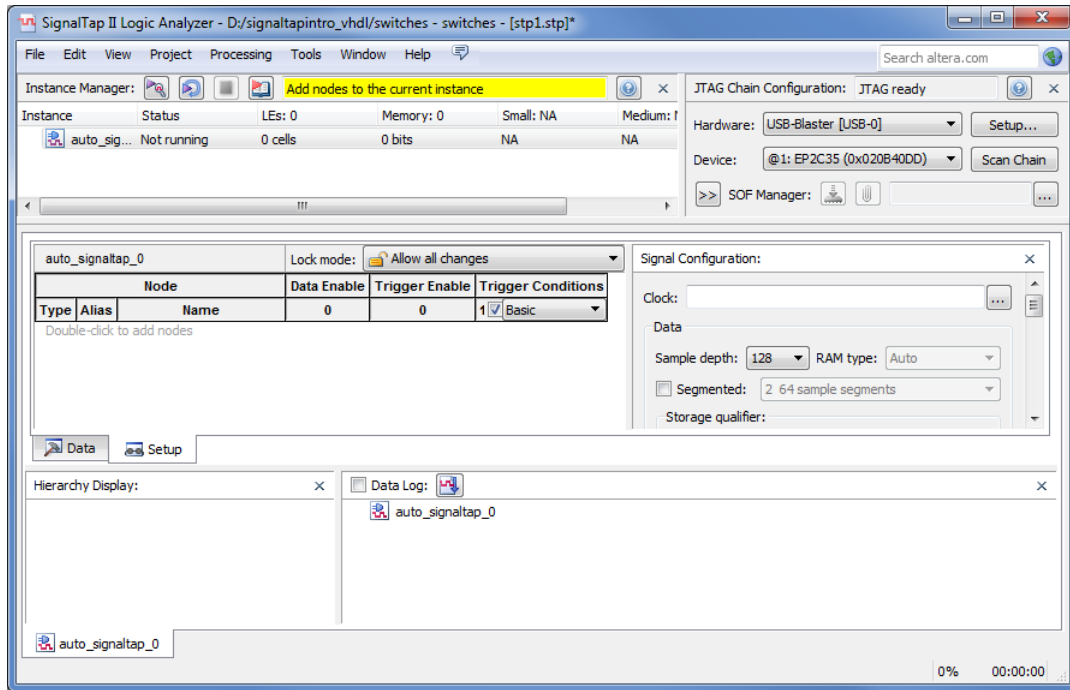
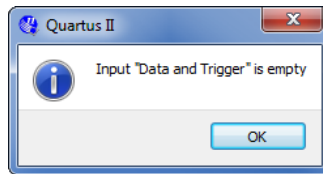
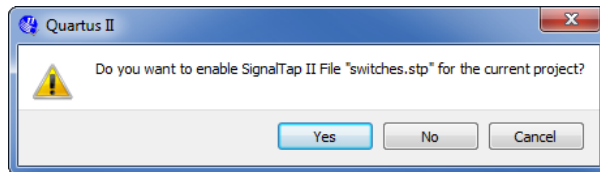

Figure 4. The SignalTap II window.
Figure 5. Click OK to this dialog.
Figure 6. Click Yes to this dialog.
2. The SignalTap II window with the **Setup** tab selected is depicted in Figure 4. Save the file under the name *switches.stp*. In the dialog box that follows (Figure 5), click **OK**. For the dialog "Do you want to enable SignalTap II file 'switches.stp' for the current project?" click **Yes** (Figure 6). The file *switches.stp* is now the SignalTap file associated with the project.